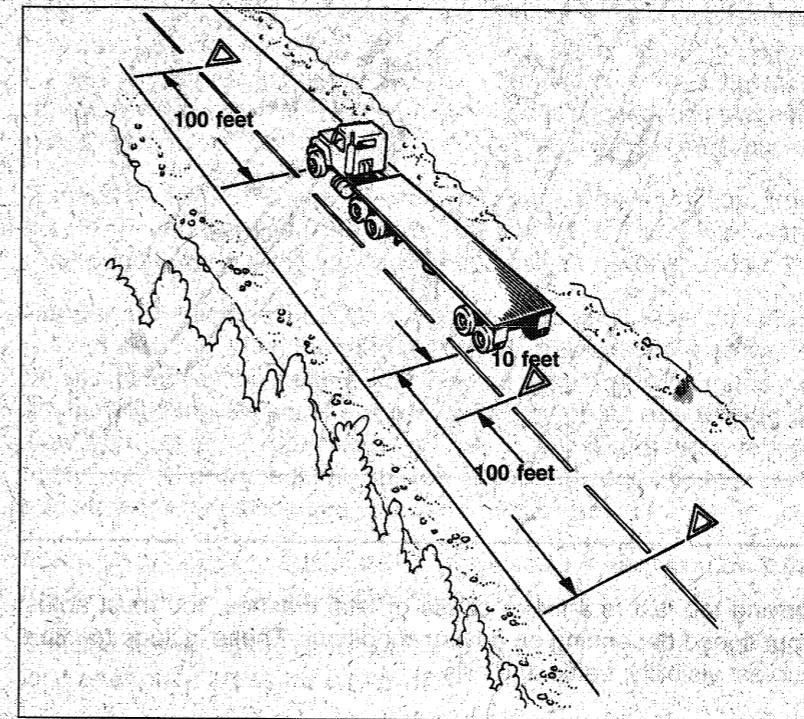

Figure 2-8
- If you stop on a two-lane road carrying traffic in both directions or on an undivided highway, place warning devices within 10 feet of the front or rear carriers to mark the location of the vehicle and 100 feet behind and ahead of the vehicle, on the shoulder or in the lane you are stopped in. (See Figure 2-8).